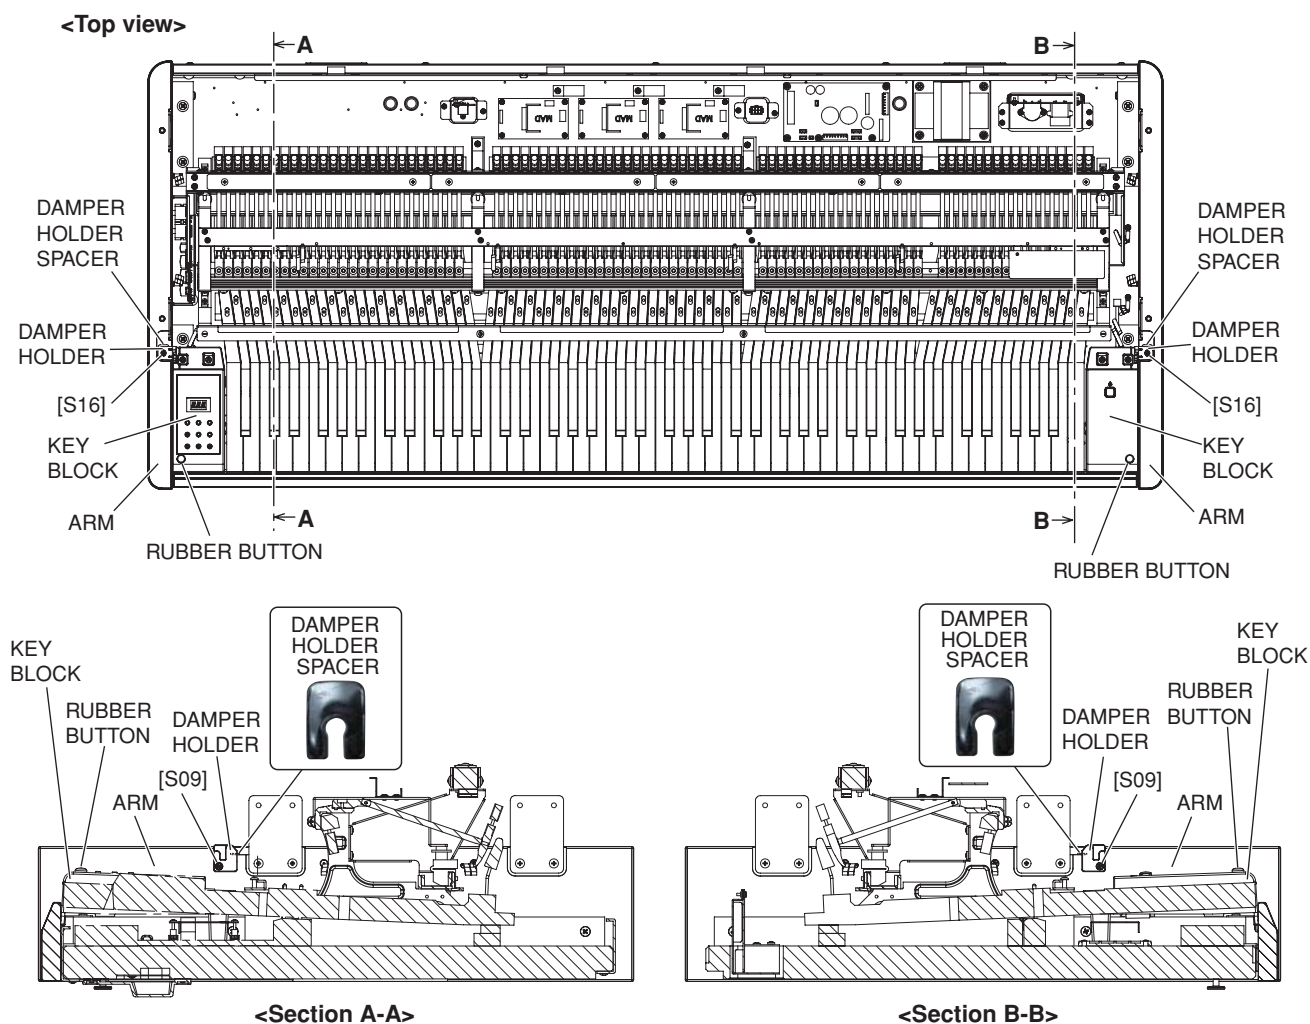

Fig. 3
(5) Remove parts
(6) Adjust damper holder up/down position
- 6-1 Loosen the screw marked [S09] and the screw marked [S16] holding the damper holder to the arm. (Fig. 3)
- 6-2 Adjust the key cover height to the height standard given in (4) by changing the number of damper holder spacers below the damper holders as needed. (Fig. 3)
- 6-3 Tighten the two (2) screws holding the damper holder. (Fig. 3)
8-1 Loosen the screw marked [S09] and the screw marked [S16] holding the damper holder to the arm. (Fig. 3)
8-2 Adjust the key cover front/rear position to the front/rear standard 1 and 2 given in (7) by moving the damper holder forward or backward as needed. (Fig. 3)
8-3 Tighten the two (2) screws holding the damper holder. (Fig. 3)
(9) Install arm upper and front board